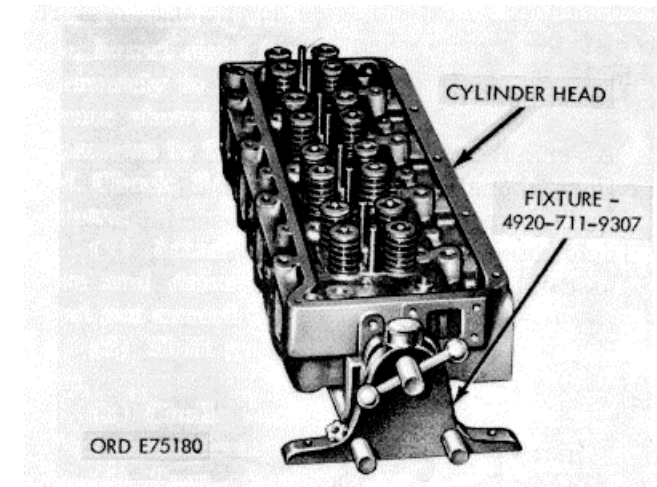

Figure 3-25. Cylinder head in fixture.
- a. Install head in holding fixture (25, fig. B-28 as shown in figure 3-25.